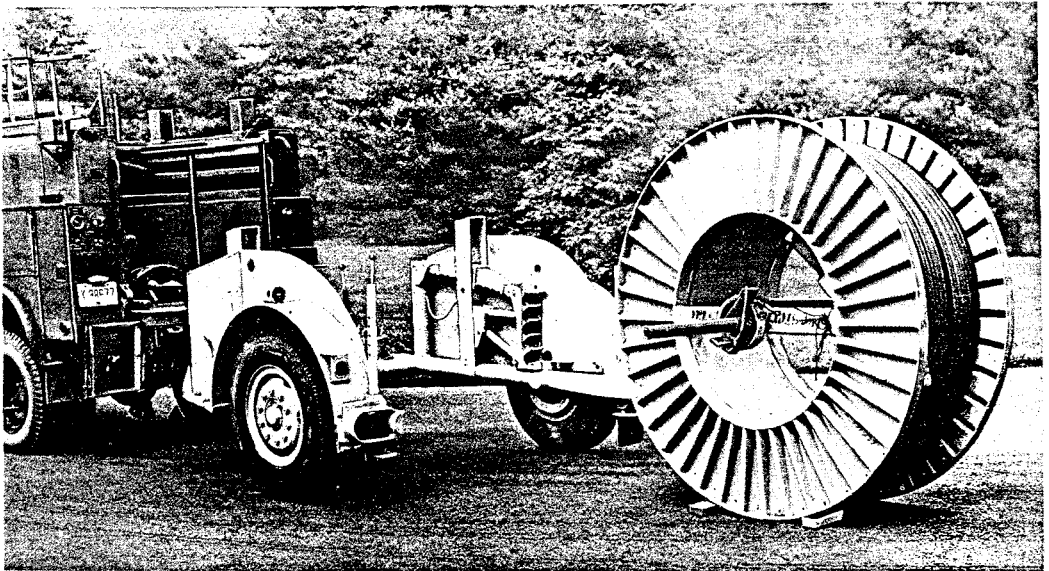

Fig. 14—Cable Reel Positioned for Loading
**6.03** Remove the spindle bar, and place it through the spindle holes in the reel to be loaded. Install reel collars on the spindle bar, if necessary, and the reel brake and reel spacer(s) as required (Fig. 14).